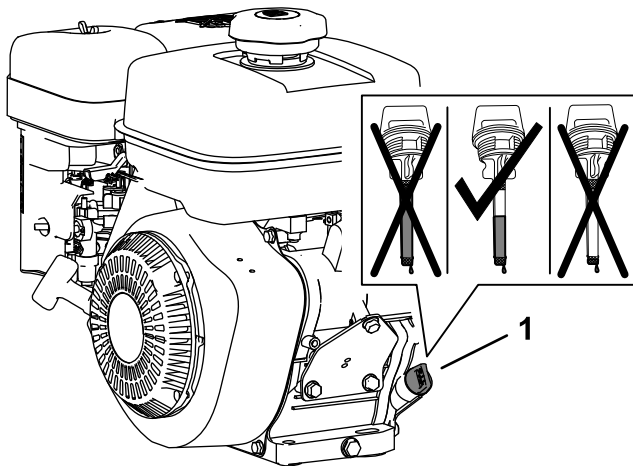

Figure 10
1. Remove the dipstick from the filler neck of the engine and wipe clean the dipstick with a rag (Figure 10).
2. Slowly pour 0.6 L (20 fl oz) of the specified oil into the crank case of the engine through the filler neck (Figure 10).
4. Remove the dipstick from the filler neck and look at the oil level in the dipstick (Figure 10).
Note: The engine oil level must cover between the hatch marked areas on the dipstick (Figure 10).
6. Hand tighten the dipstick into the filler neck (Figure 10).